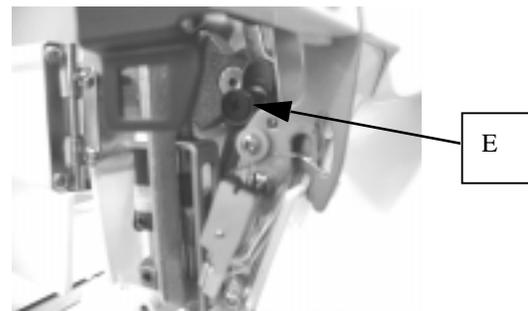
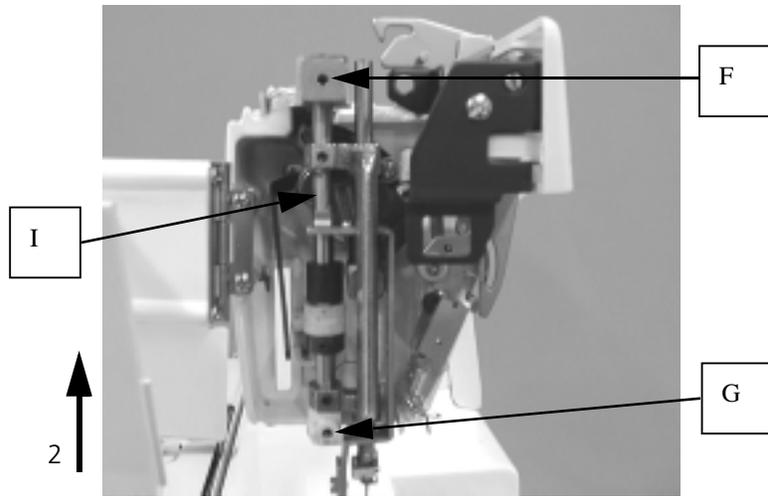
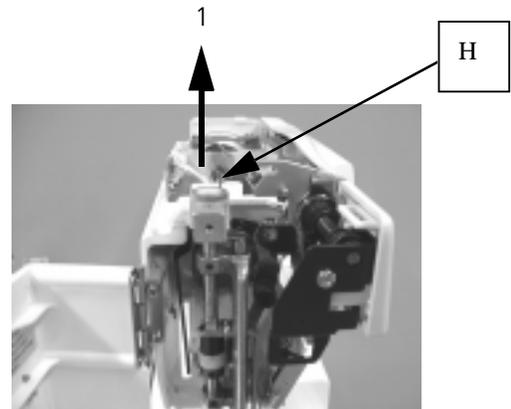

FIGURE 3-2-1
FIGURE 3-2-2
FIGURE 3-3
3. Remove left hand setscrew(E) shown in Fig.3-2-1, loosen socket screw about 6 turns, and then, loosen socket screw(G). Fig.3-2-2.
4. Draw out the guide bar bushing(H) in the arrow 1 direction (Fig.3-3), and then, draw out guide bar(I) in the arrow 2 direction as shown in Fig.3-2-2.